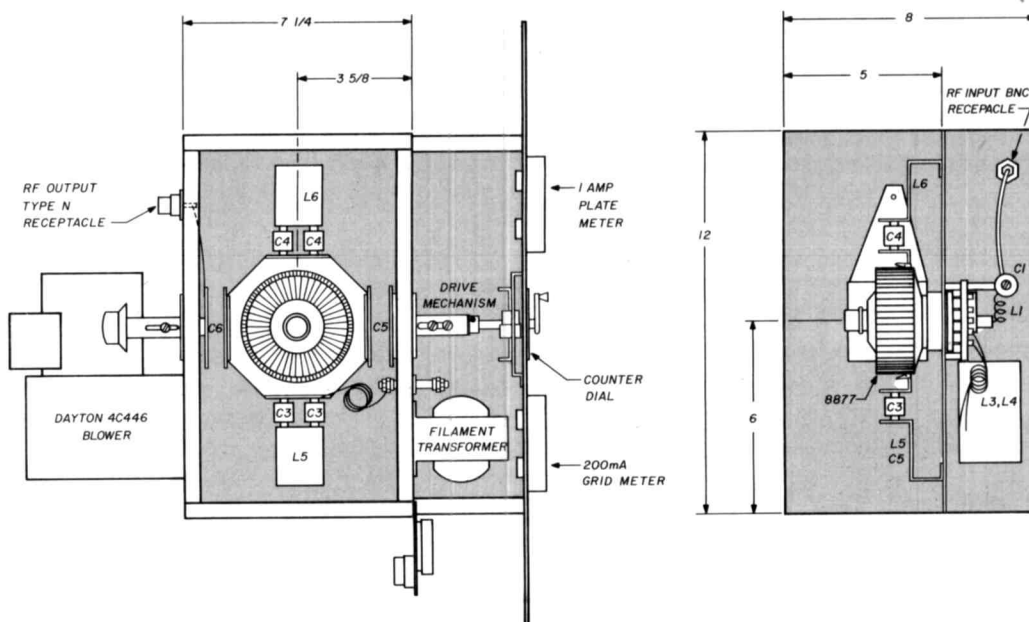

fig. 2. Structural details of the amplifier showing relative size and position of the various components. Assembly is made of aluminum panels.
- C5 Plate tuning capacitor (see fig. 2)